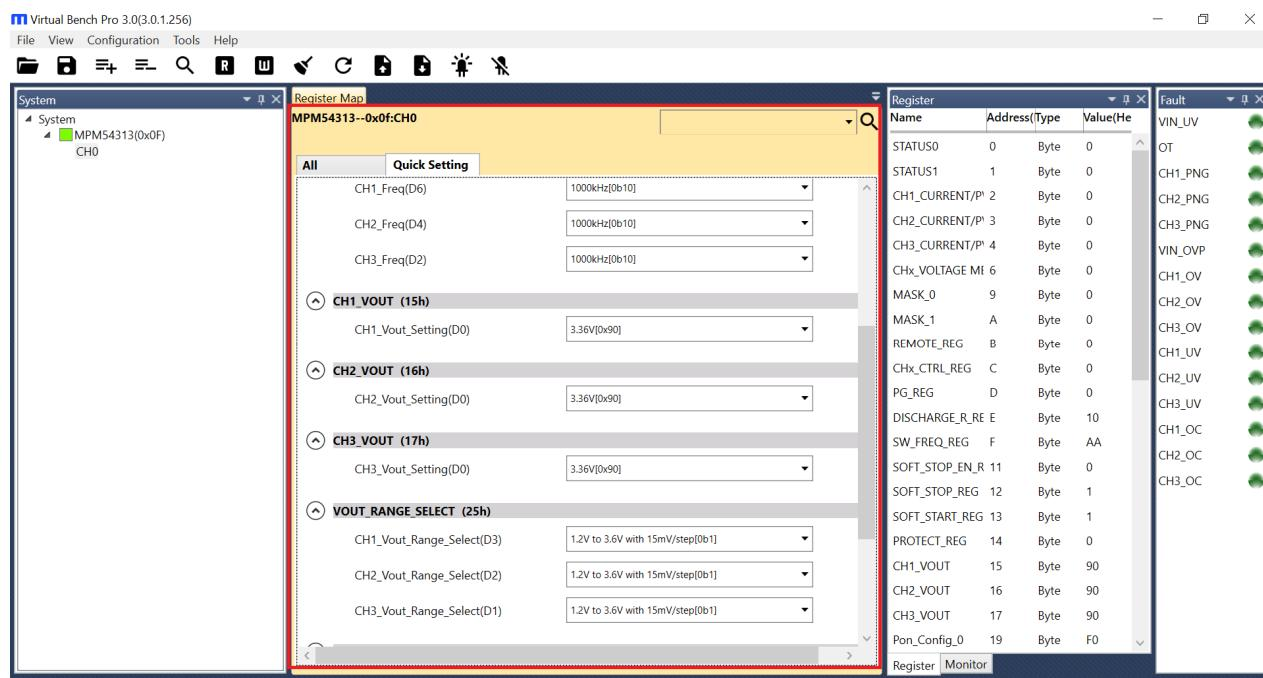

Figure 4: The Register Control Menu
4. The Register Control menu should appear in the middle panel (marked in red), and the values stored in the module registers should be read automatically (see Figure 4).